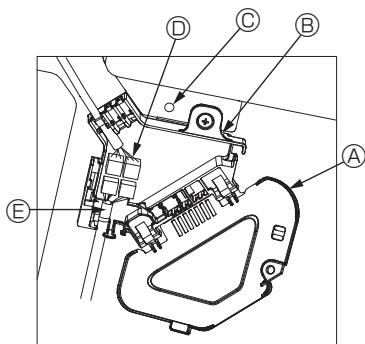

Fig. 5-9
- In the connector box, locate the junction wire for the vane motor of the grille and the wire for the vane motor, and then connect the wires. (Fig. 5-9)